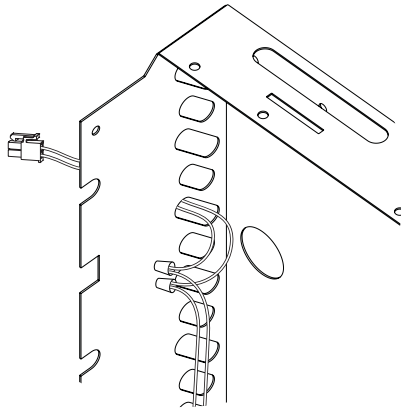

Figure 3
6. Connect two thermostat wires to the wire leads on the connector harness assembly provided with this kit using two wire nuts, note wire color. Route the end of the plug through an upper slot in the side of the rear shroud. **See Figure 3.**